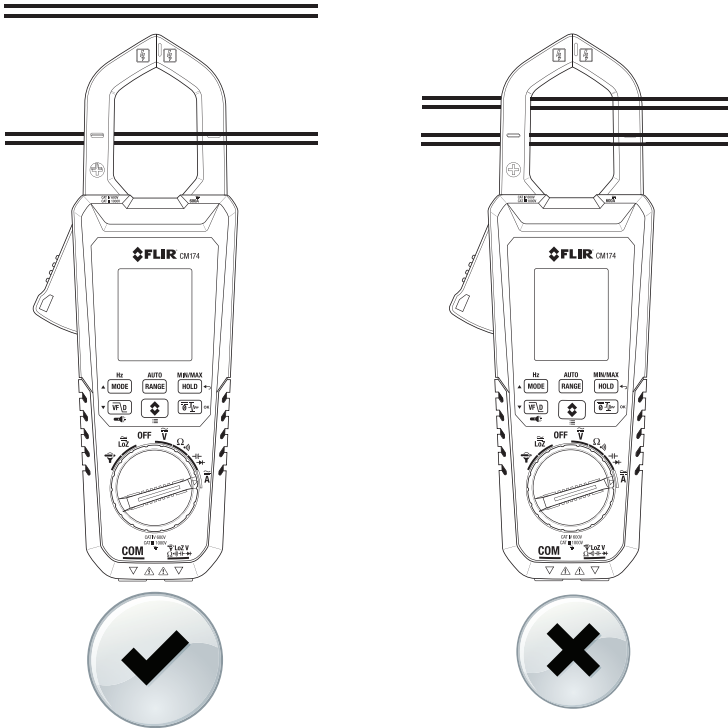

Figure 5.2 Correct and incorrect setup
When measuring current using the clamp jaws, only one conductor should be enclosed by the jaws—refer to Figure 5.2.
5. Press the trigger to open the clamp jaws. Fully enclose one conductor—refer to Figure 5.2. For optimum results, center the conductor in the jaws.